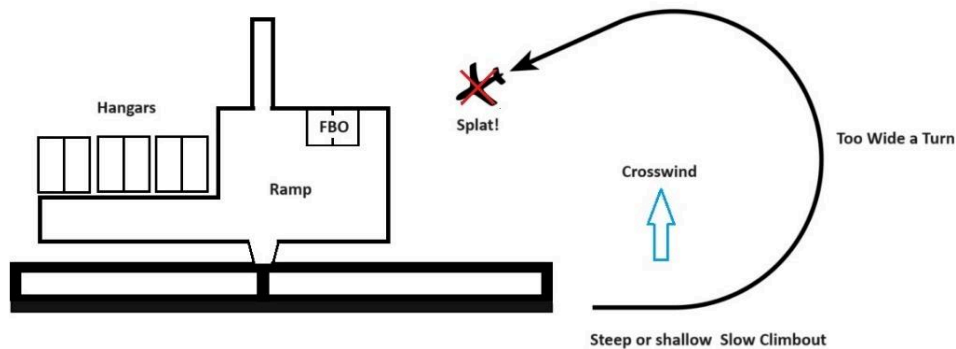

**Figure 2**
- 2. Look through an arc of about 60 degrees left and right of aircraft heading and select the best available landing area (see Figure 2);*
The precisely accomplished pattern will look similar to this in figure 2.